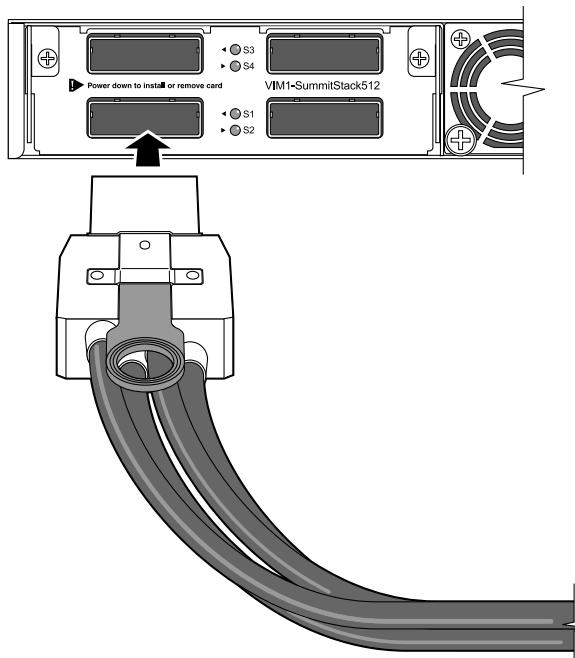

Figure 232: Connecting a SummitStack 128G Cable
- Holding the cable connector with the release tab on top, align the connector with the stacking port on the VIM1 module in the Summit X650 series switch (see Figure 232).